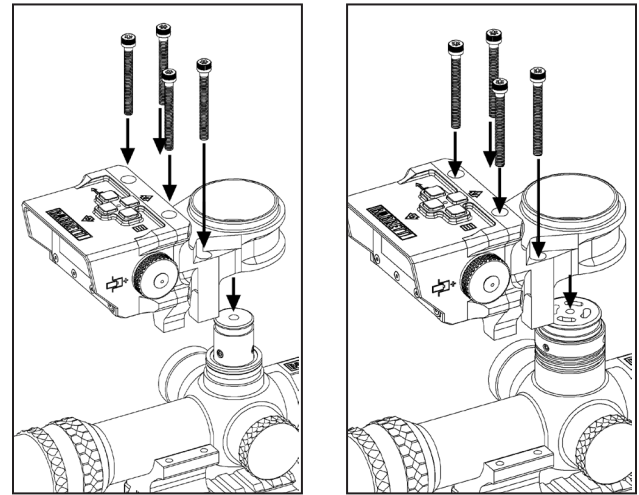

Figure 6.
5. Place the BORS unit on top of the rear scope ring. Start the four BORS mount screws (T-25 Torx® wrench), but do not tighten them. Figure 6.